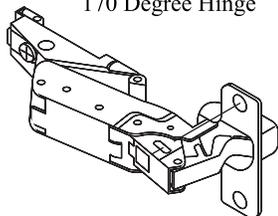

Fig. 2
3. Attach the two spacers to the surface mounted bracket as shown in Figure 2. Install the next cabinet so that its surface mounted bracket is tight against these spacers.